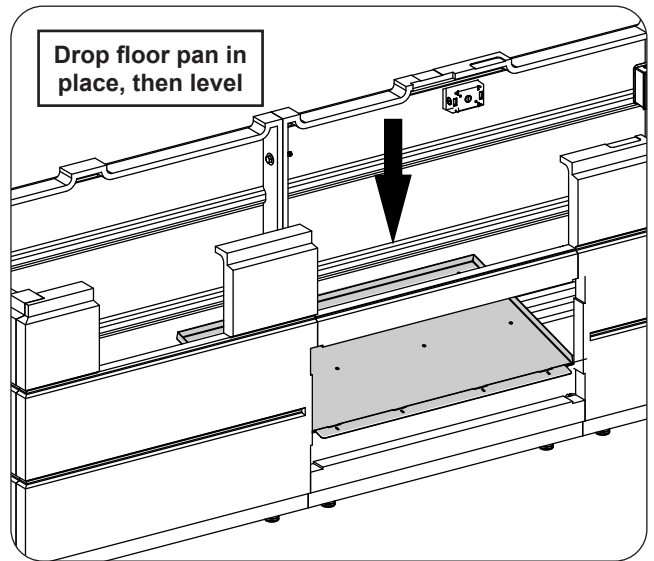

Fig. 11-2 Place floor pan
1. Place floor pan into the access door cutout as shown (see Fig. 11-2).